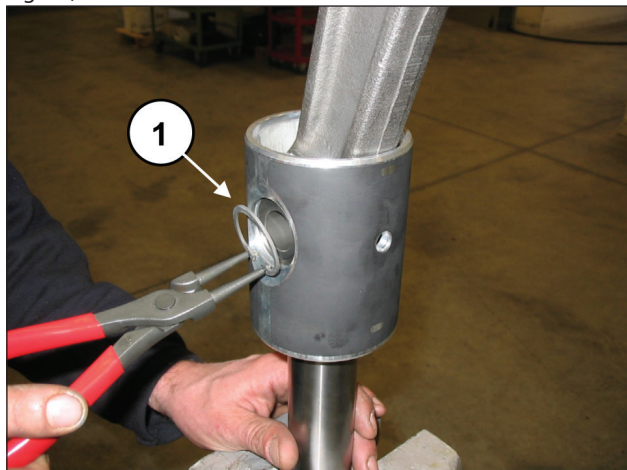
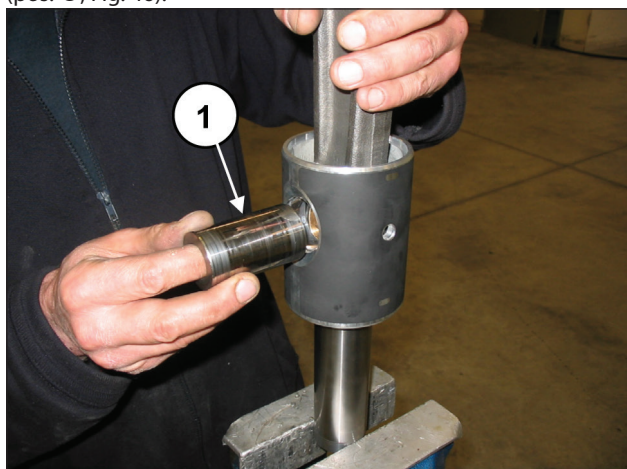
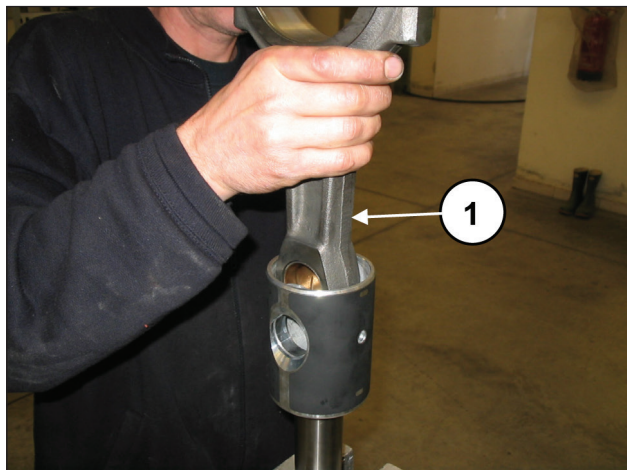

Fig. 44
Fig. 45
Fig. 46
Remove the two spindle pin circlips using circlip pliers (pos. ①, Fig. 44).
Remove the spindle (pos. ①, Fig. 45) and extract the conrod (pos. ①, Fig. 46).
Insert the conrod in the piston guide (pos. ①, Fig. 46) and then insert the spindle (pos. ①, Fig. 45). Fit the two circlips with the circlip pliers (pos. ①, Fig. 44).